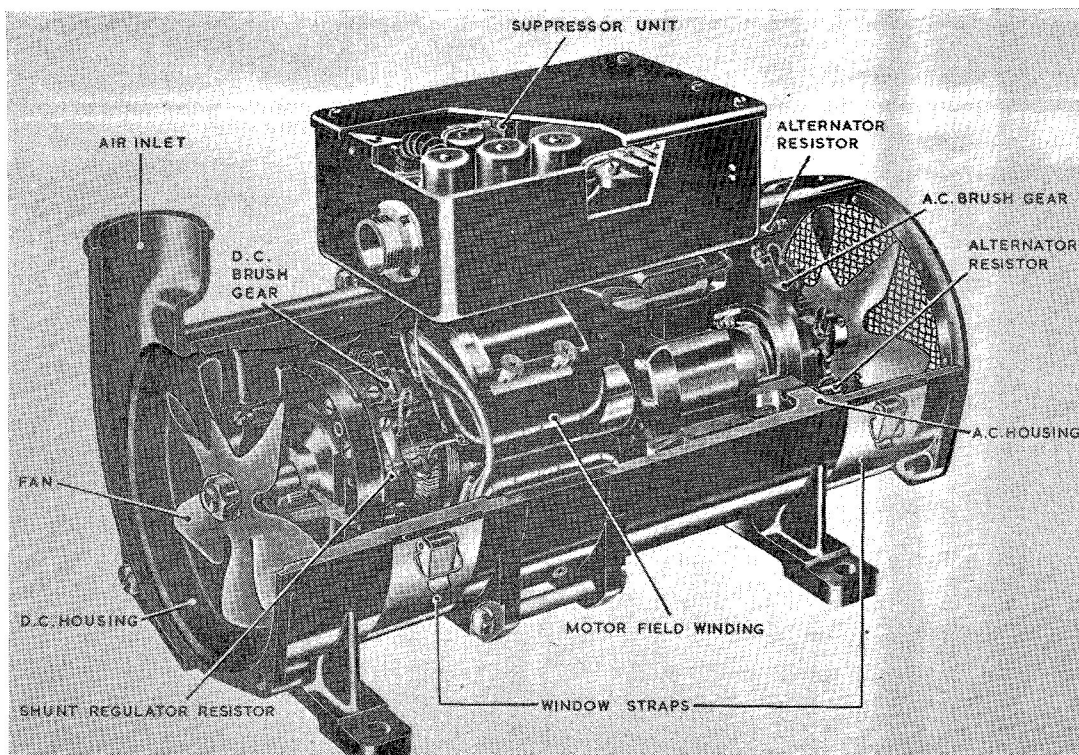

Fig. 1. Sectional view of Type 153A inverter
3. A general description of inverters in the S3100 series will be found in A.P.4343, Vol. 1, Sect. 8, Chap. 2, App. 1. The Type 153A inverter (*fig. 1*) follows the same general construction, but has two shunt field ballast resistors mounted on the brush gear and four rotor circuit resistors mounted in the a.c. housing. It differs from the Type 153 inverter in having a separate shunt field input connection to give increased starting torque, the connection being an additional terminal inside the suppressor box.